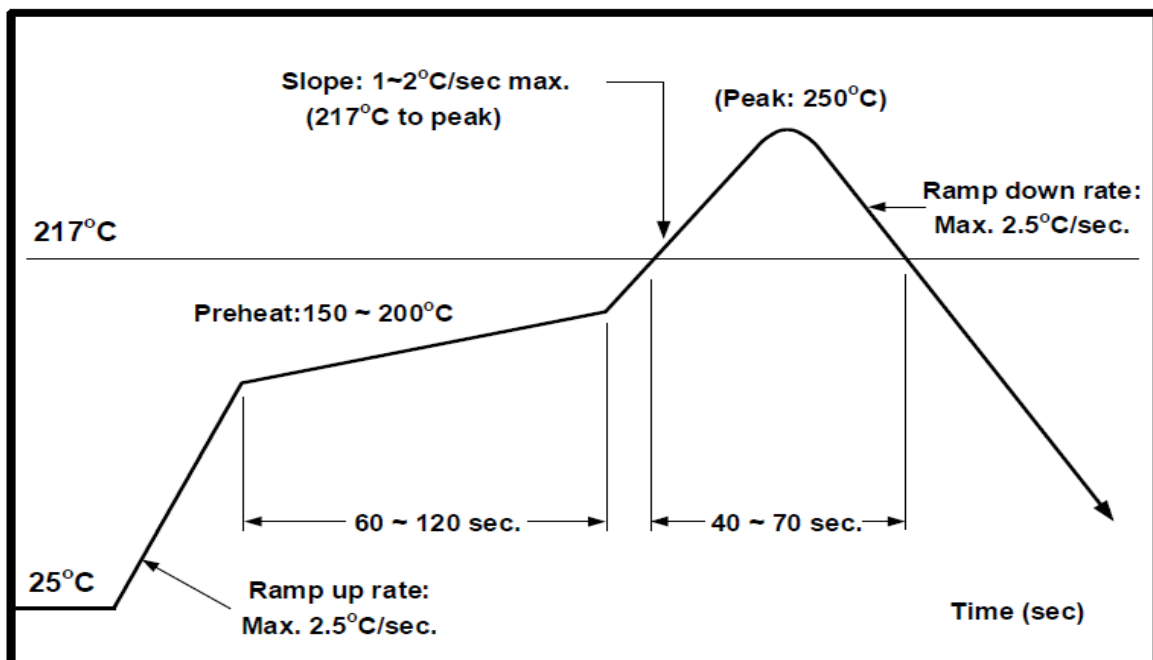

Figure 23 : Solder reflow profile
- Allowable reflow soldering times: Three times based on the reflow soldering profile as shown in Figure 23.
- Temperature profile: Reflow soldering shall be done according to the temperature profile as shown in Figure 23.